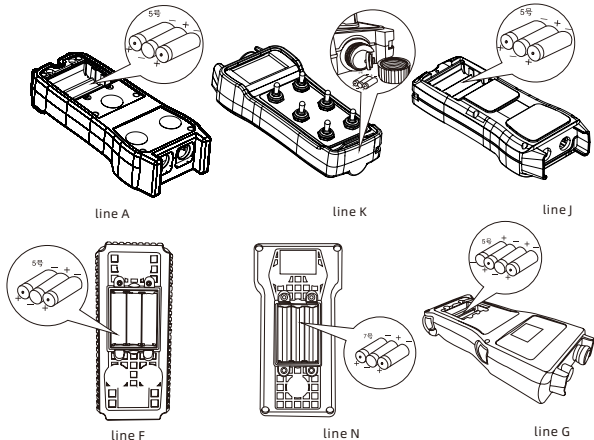

Figure 3 (Normal Battery Installation Diagram)
1. Insert 3 fully charged AA batteries into the transmitter battery compartment with correct polarity in sequence, then fit the rear cover and tighten the lock nut (See Figure 3).